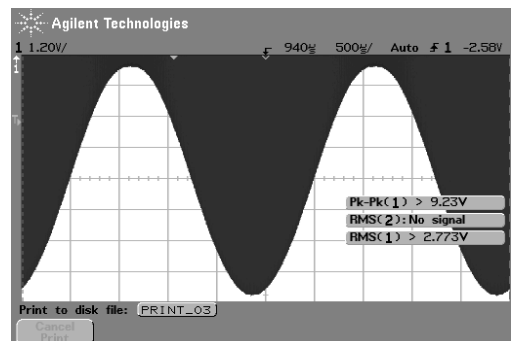

Figure 4-4: MCW signal, 95% modulation
- Measure the bottom of the waveform. Each sub-division should correspond to 5% in modulation. The bottom of the waveform should be one sub-division above the bottom of the display when the modulation is at 95% (see Figure 4-4).